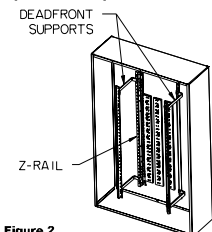
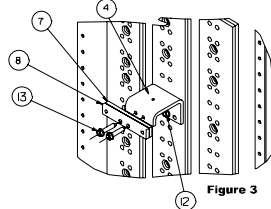
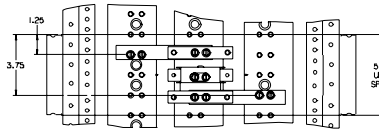
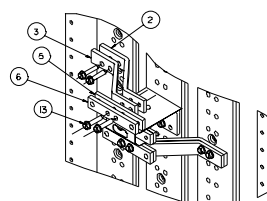

Figure 2
Figure 3
Figure 4
Figure 6
3. Reference fig. 2 - To mount a VL FG Frame breaker, 5" of empty unit space is required. To locate the mounting position, measure from the top deadfront support to the top of the empty unit space filler on the deadfront. Transfer this dimension from the deadfront support along the Z-rail and mark. This will be the unit space as shown on Fig. 4. After marking the Z-rail, remove the deadfront.
5. Reference fig. 3 and fig. 4 - The first items to be installed are the B-phase strap and B-phase links (items 4, 7, 8). Note that the 0.281" holes on the B-phase links (item 7 and 8) are offset and are not symmetrical as in A and C-phase links (items 5 and 6). Locate two 0.228" diameter holes on the B-phase of the section bus, 3.75" down from the top of 5.0" unit space selected. Insert two 1/4-20 thread-forming screws (see the mounting hardware kit, item 12, for proper length) through the two holes in the B-phase strap (item 4) and then into the 0.228" diameter holes on the B phase bus and tighten. Orient the B-phase links as shown in fig. 3 with the 0.281" holes located away from the bend on the B-phase strap (item 4). To install the B-phase links, insert two 1/4-20 X 1-1/4" screws (item 13) through two 0.281" holes on B bottom and top links (item 7 and 8) and then into the 0.228" diameter holes on the B-phase strap and tighten. Torque all screws to the values specified on the rear of the deadfront.
7. Reference fig. 4 and fig. 6 - Locate two 0.228" diameter holes in the A-phase section bus, 1-1/4" down from the top of 5.0" unit space selected. Insert two 1/4-20 thread-forming screws (see the mounting hardware kit, item 12, for proper length) through the two holes in the A-phase straps (item 2 and 3) and then into the 0.228" diameter holes on the A-phase bus and tighten. To install the C-phase strap (item 2) and 3) locate two 0.228" diameter holes on the C-phase section bus 3.75" down from the top of 5.0" unit space selected. Insert two more 1/4-20 screws through the two holes in the strap and then into the 0.228" diameter holes in the C-phase section bus. To install A and C-phase links (item 5 and 6) repeat the installation steps similar to B-phase links installation, orienting the link bars as shown so as to have 1.375" vertically between centers of the bars. Torque all screws to the values specified on the rear of the deadfront.